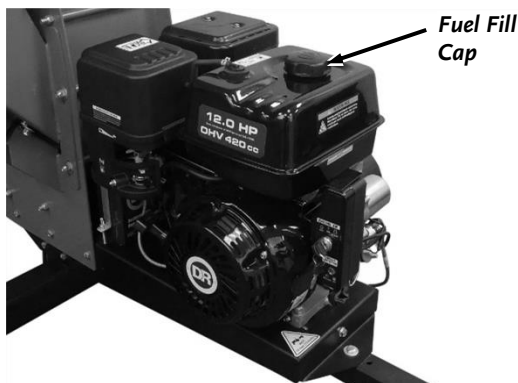

Figure 9
- Remove the Fuel Fill Cap and fill the Fuel Tank with fresh, unleaded gas (with a minimum of 85 Octane) to approximately 1" to 1-1/2" below the top of the Fill Neck to allow for Fuel expansion (**Figure 9**). Be careful not to overfill.